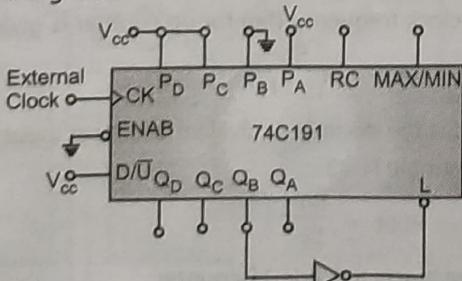

Fig. 3.85
- After going through the state 0011, the next state 0010 should not occur, for 0010 output $Q_B = 1$, therefore Q_B needs to be inverted first and then connect it to the load input. It is shown in Fig. 3.85.
- As shown in Fig. 3.85, the initial state 1101 can be loaded into counter using the active low load input.